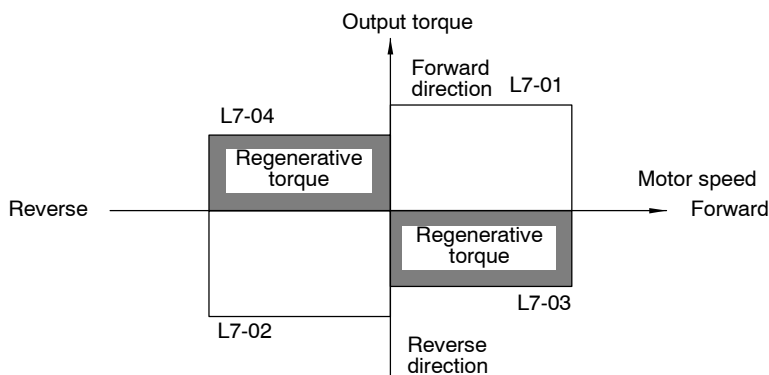

Fig 7.14 Torque Limit Function
- Figure 7.14 shows the relationship between each constant and the output torque.